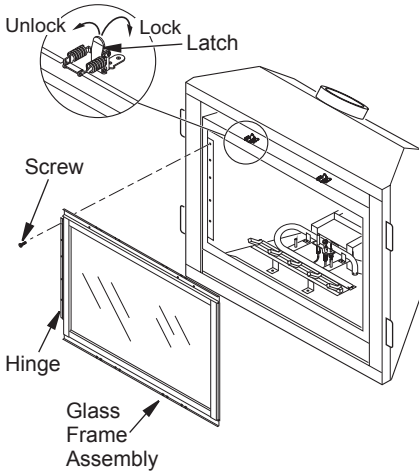

Figure 38 - Removing/Replacing Glass Door
2. Lift up on latches to unlock. There are two on top of firebox and two below firebox that hold glass door in place (see Figure 38, page 24).
3. While holding glass door to prevent it from falling and causing injury, remove the five screws from the hinge located on the left side of door frame assembly (see Figure 38, page 24).
5. Close glass door frame. Lock latches by placing the bar under the tab on door and pushing down and back on latch (see Figure 38, page 24).